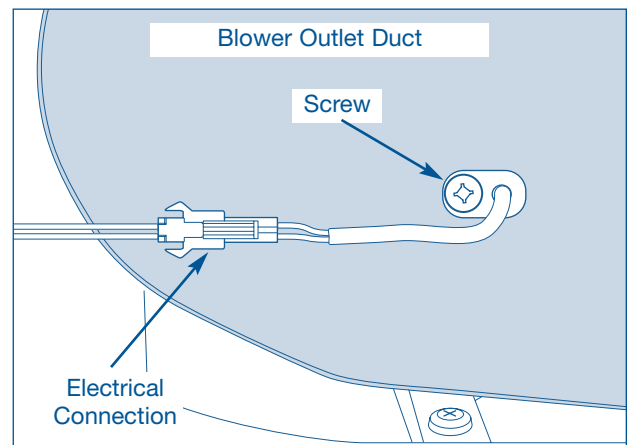

Figure 4-35.
3. Using a #2 square bit screwdriver, extract the two screws securing the outlet thermistor to the blower outlet duct. (See Figure 4-35)